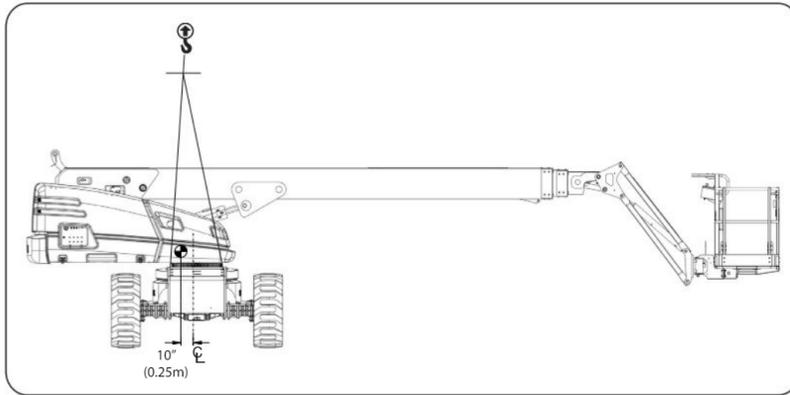
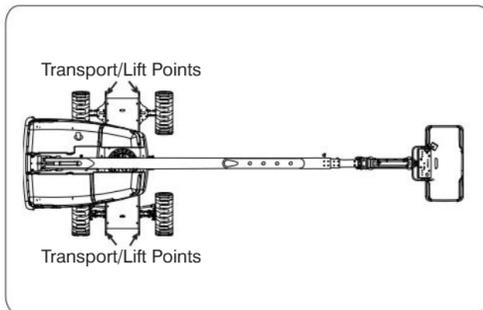
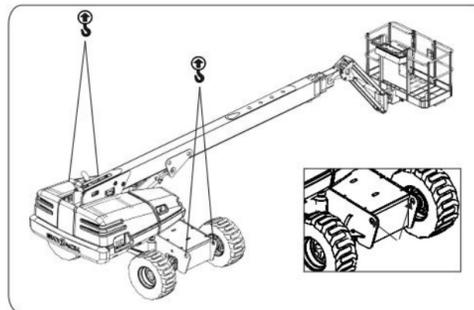

Figure 3-9. 66T Center of Gravity
Figure 3-10. 66T Overhead View Lifting Points
Figure 3-11. 66T Lifting Points
1. Rotate the boom and position the MEWP as shown in Figure 3-9 and Figure 3-10.
4. Properly adjust rigging to ensure MEWP remains level during lifting. See Center of gravity location (Figure 3-9).
**When lifting the MEWP, lifting devices must be attached to designated lift points only (refer to Figure 3-10 and Figure 3-11).**